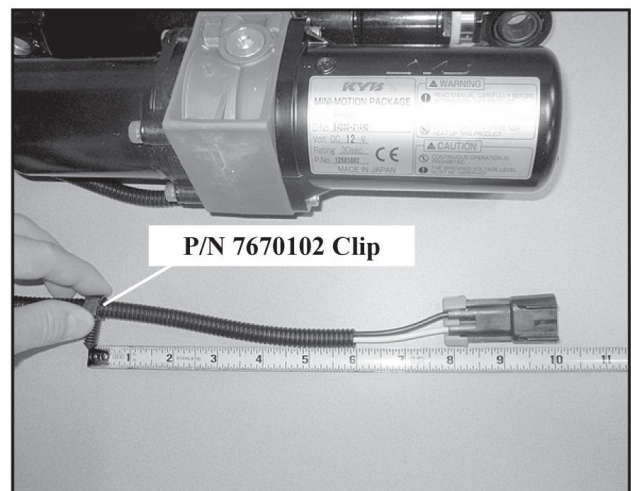

Figure 7
6. Install the P/N 7670102 routing clip (#6) to the harness of the P/N 2879221 lift cylinder (#1) 10" from the end of the plug as shown in *figure 7*.